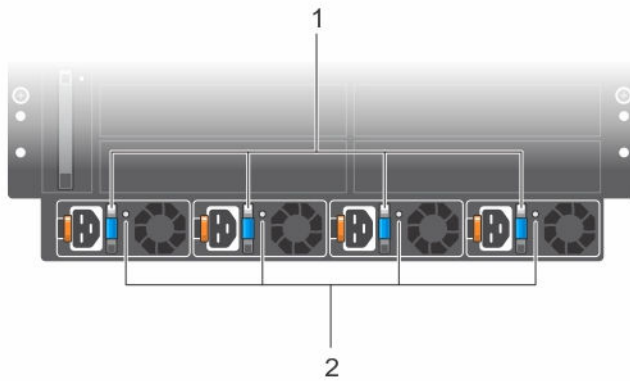

Figure 32. PSU LEDs
5. The power supply LEDs display solid green (see Figure 32). If a PSU LED is not solid green: